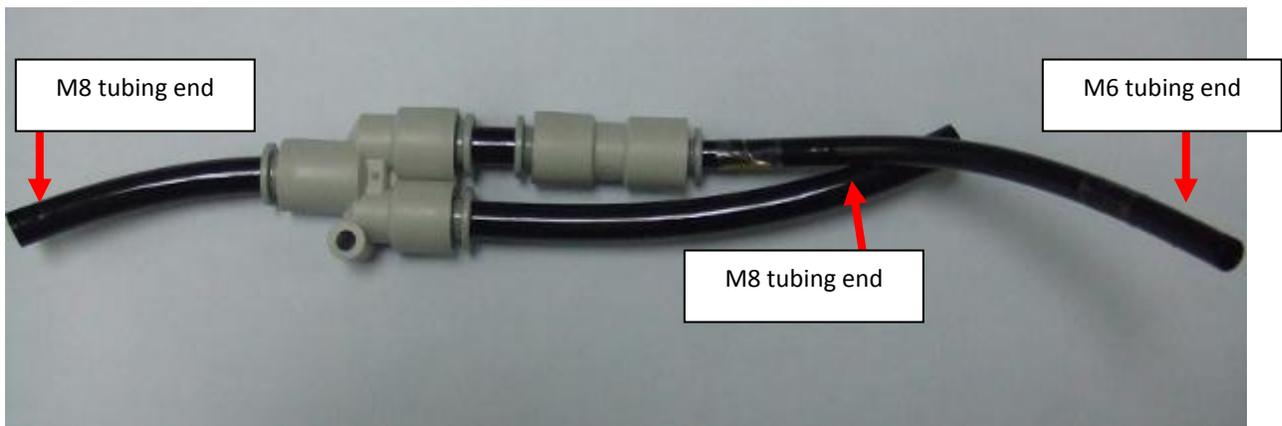

Figure 9: the removal of the existing tubing and fitting assembly
- 9. Now, the whole tubing and fitting assembly in Figure 9 is now removed from the fixture.